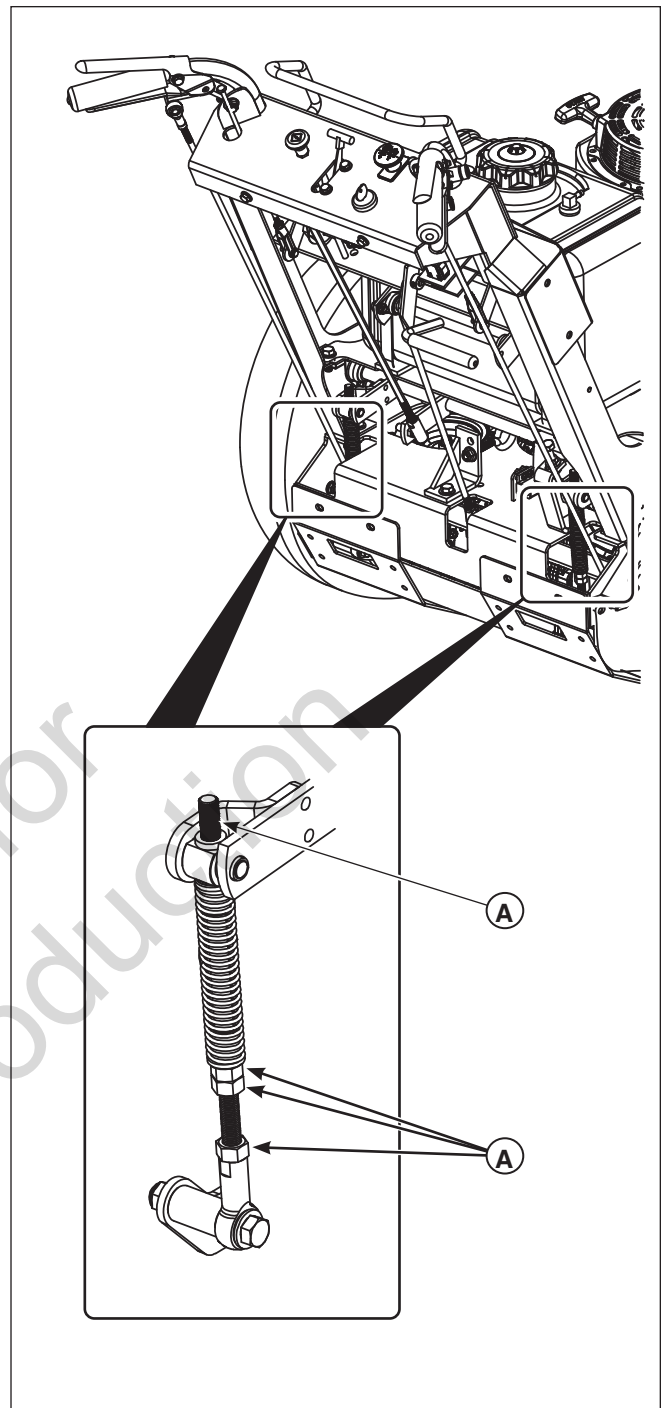

Figure 26. Adjusting the Speed of the Faster Wheel
There are three (3) nuts (A, Figure 26) on the linkage rod (B). The first two are to be used together to turn the rod and the third is used to lock the rod in place.